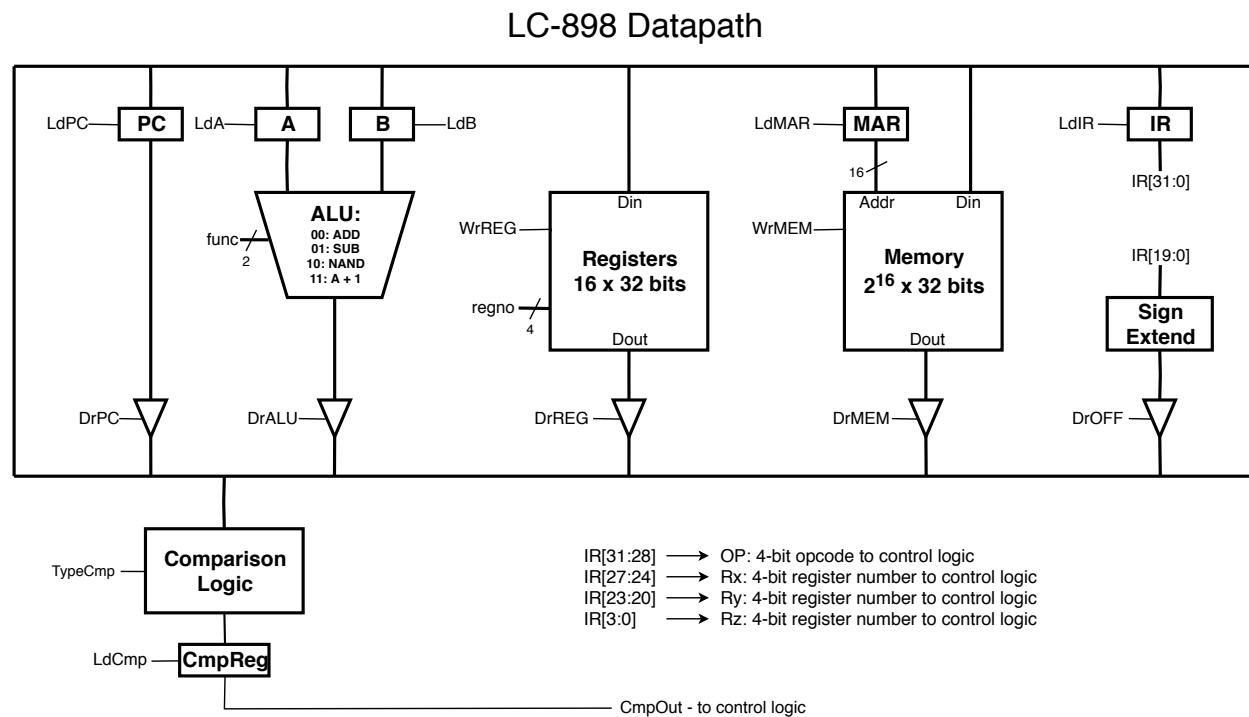

Figure 1: Datapath for the LC-898 Processor
2. Using CircuitSim, implement the LC-898 datapath. To do this, you will need to use the details of the LC-898 datapath defined in Appendix A: LC-898 Instruction Set Architecture. You should model your datapath on Figure 1.
The “comparison logic” box in Figure 1 is responsible for performing the comparison logic associated with the BGT and BEQ instructions. The comparison logic should read the current value on the bus plus the mode bits from the IR. When executing BGT and BEQ, you should compute  $A - B$  using the ALU. While this result of the ALU is being driven on the bus, the comparison logic should read the result  $A - B$  and output a single “true” or “false” bit for either the condition  $A == B$  or  $A > B$  depending on the mode input.
2. Implement the Microcontrol Unit using CircuitSim. The appendix contains all of the necessary information. Take note that the input and output signals on the schematics directly match the signals marked in the LC-898 datapath schematic (see Figure 1).
3. Connect the completed control unit to the datapath you implemented in Phase 1. Using Figures 1 and 2, connect the control signals to their appropriate spots.